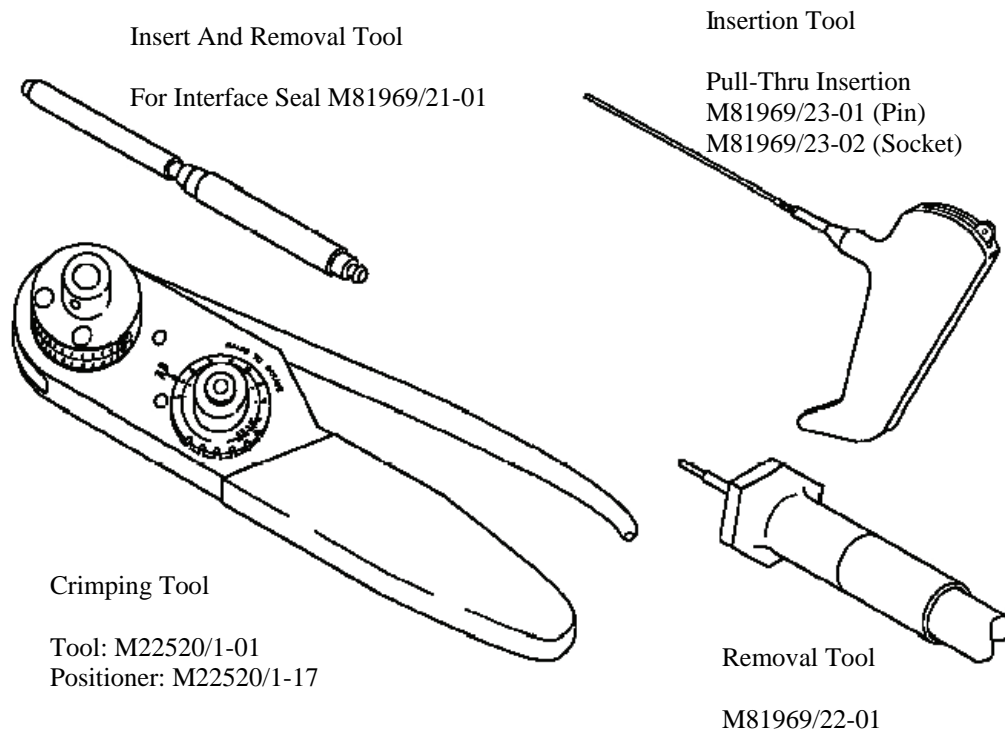

Figure 10. MIL-C-85028 Power Contact Tooling
28. **TOOLING.** The procedure for attaching power contacts to a single conductor wire are the same for this connector series. Select proper tooling (Figure 10) and refer to NAVAIR 01-1A-505-1, WP 013 00 for correct assembly and crimp procedures.
- a. Select correct crimp tool (Figure 10).
- c. Select correct insertion tool (Figure 10).
- a. Select correct removal tool (Figure 10).